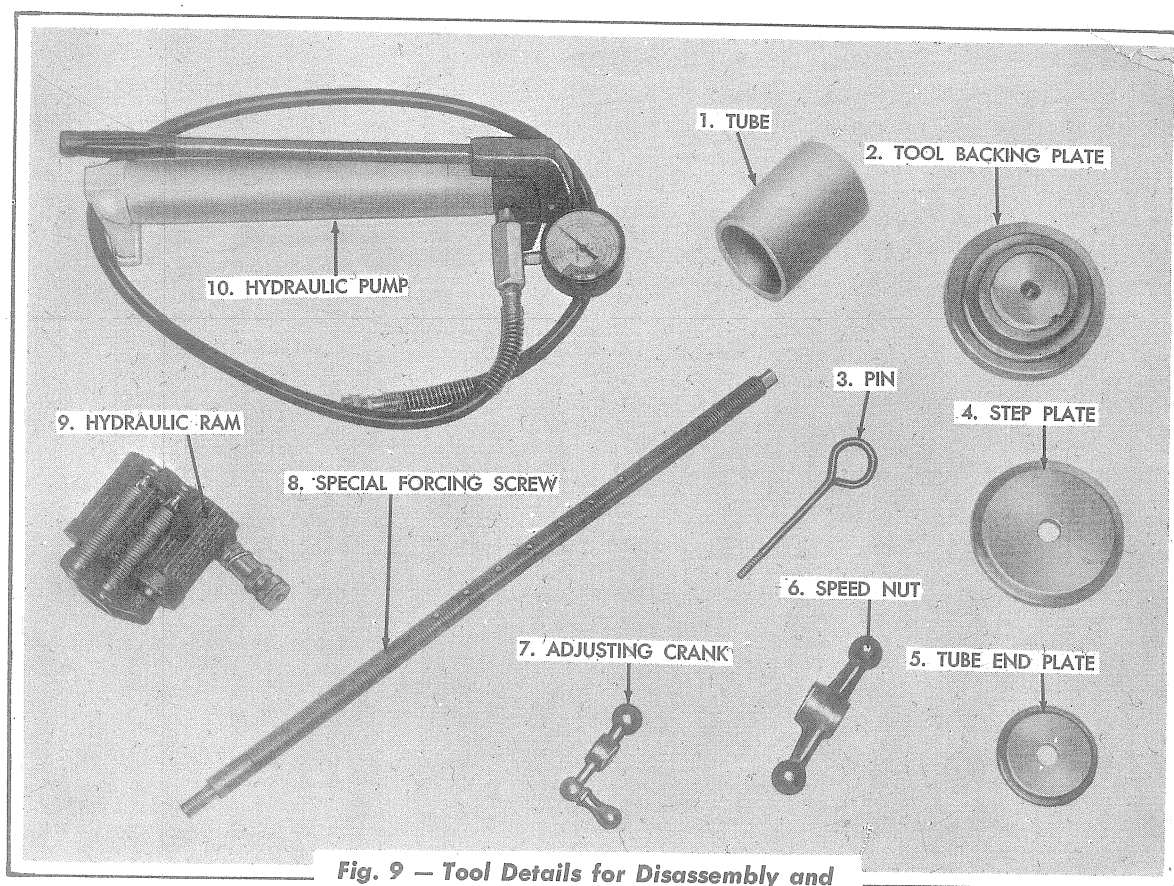

Fig. 9 — Tool Details for Disassembly and Assembly of Steering Clutch
4. Place the tool backing plate (Fig. 9) on a work bench and place the clutch throw-out plate, flat face downward, in position on the tool backing plate.